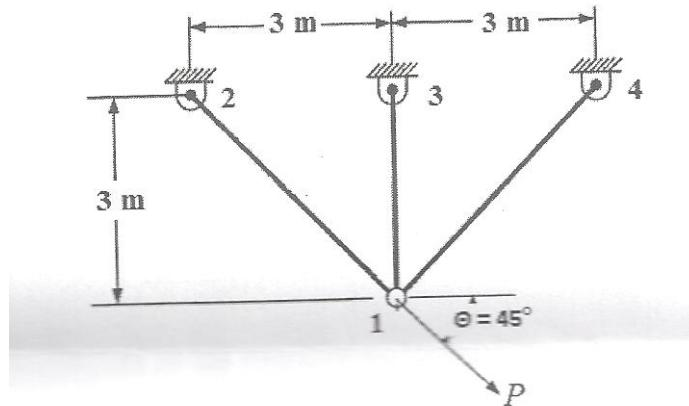

Figure 3a
- Q. 3 A** For the plane truss show in Figure 3a, determine the following. Each element has $E=70 \text{ GPa}$, and area $A=200 \text{ mm}^2$. $P=1 \text{ kN}$.
- Assemble k matrices to get global stiffness matrix (K),